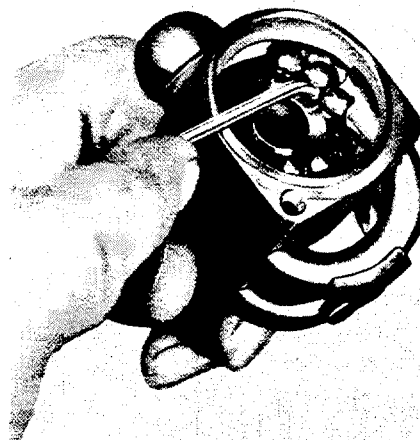

Fig. L 4/25
16. Now fill the upper ball-race with balls. When doing this, turn the steering worm back and forth and use a suitable bent, blunt wire to insert the balls in the ball guide tube (Fig. L 4/25).